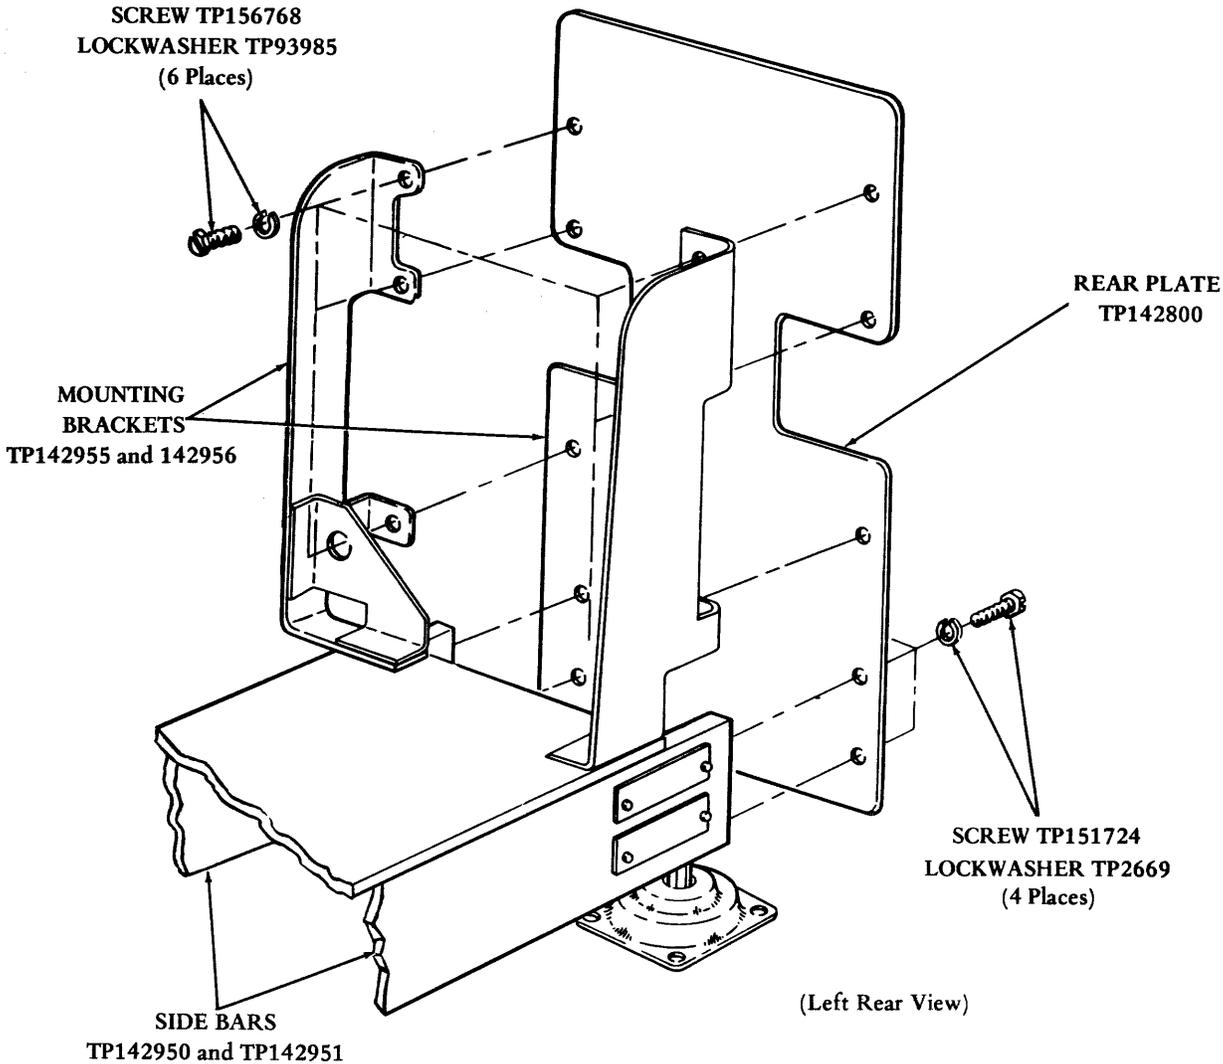

Figure 1 - Punch Unit Rear Plate Mounting
2.07 Remove the punch unit from the wooden pallet. Mount it on the base with mounting hardware provided in a muslin bag attached to the punch unit. Six screws (TP156768) and lockwashers (TP93985) should pass from the rear through mounting brackets (TP142955 and TP142956) on the base into the upper part of rear plate TP142800 of the punch unit (Figure 1). Four screws (TP151724) and lockwashers (TP2669) should pass from the front through the lower part of the rear plate into side bars (TP142950 and TP142951) of the base. Connect the male receptacle of the punch unit cable to the female receptacle on the base. Mount the chad container as instructed in 2.02.